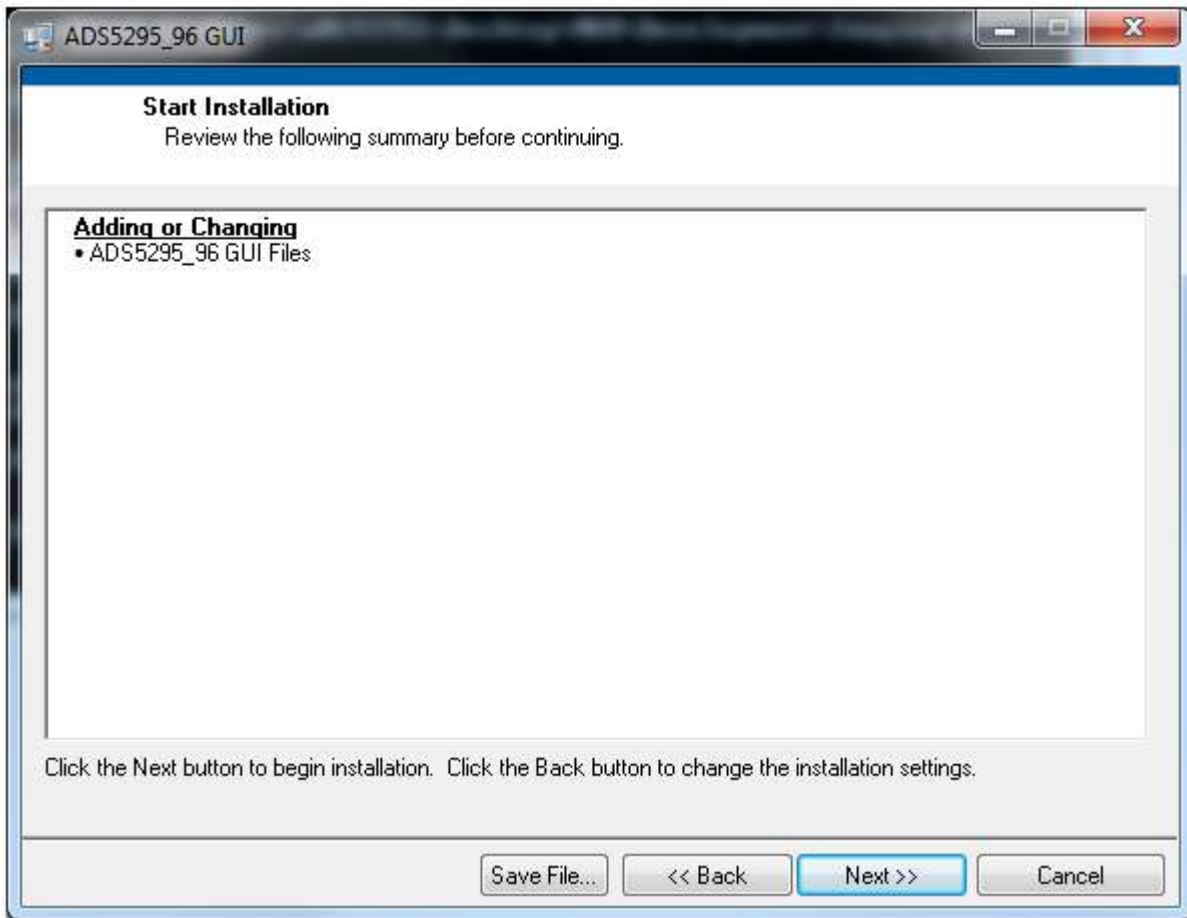

**Figure 5. HSDCpro Install (d)**
- Read the License Agreement from National Instruments and select *I accept the License Agreement* and press the *Next* button as in Figure 5.